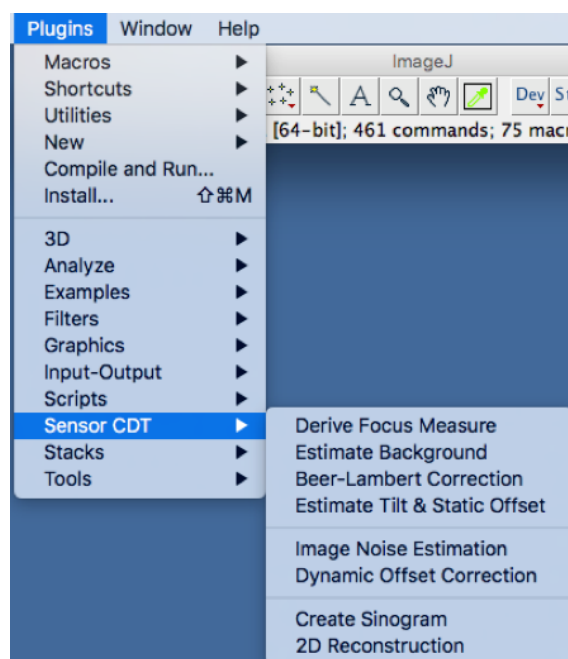

Figure 7: The Sensor CDT Plugin Library.
3. Save the .jar file in the plugins folder as shown in figure 7.
5. The Sensor CDT plugins should now appear under the *Plugins* tab in ImageJ as shown in figure 7. There should be 8 plugins: Derive Focus Measure; Estimate Background; Beer-Lambert Correction; Estimate Tilt & Static Offset; Image Noise Estimation; Dynamic Offset Correction; Create Sinogram; 2D Reconstruction.
2. Run the *Create Sinogram* plugin from the ImageJ *Plugins* tabs under the *Sensor CDT* group as shown in figure 7.
3. Run the 2D Reconstruction plugin from the ImageJ Plugins tabs under the Sensor CDT group as shown in figure 7.